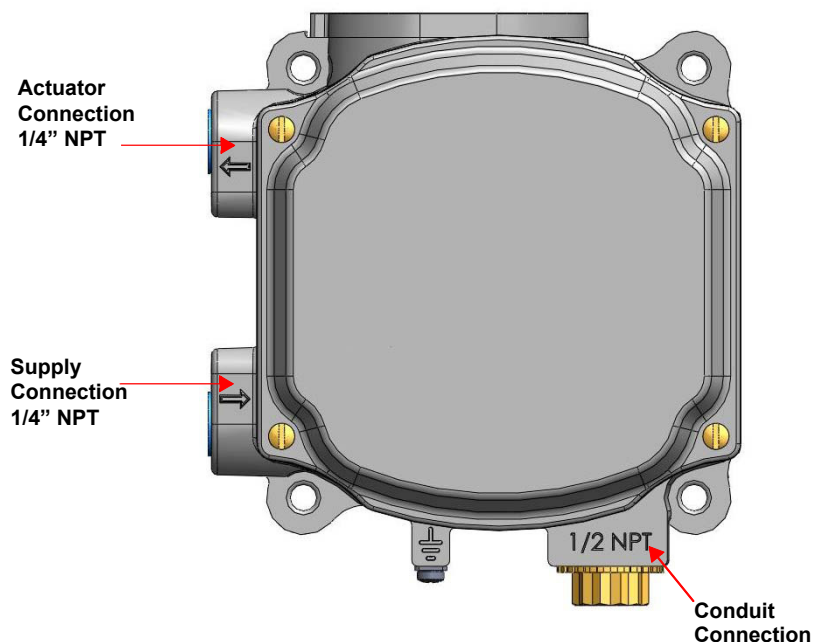

Figure 22 - Air Ports
1. Install the tubing to the air supply port. Minimum tubing diameter 1/4" (Figure 22).